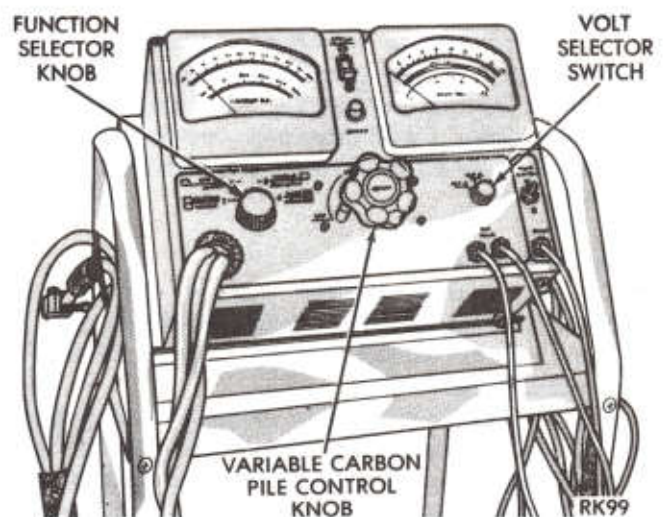

Fig. 1—Volt-Ammeter Tester
(1) Connect a reliable Battery-Starter Tester per instructions of its manufacturer (Fig. 1).
(2) Turn Battery—Starter Tester, Control Knob to "Off" position (Fig. 1).
(3) Turn voltmeter Selector Knob to 16 volt position (Fig. 1).
(4) Turn Battery-Starter Function Selector to Starter System Test (0-500 amp scale Fig. 1).